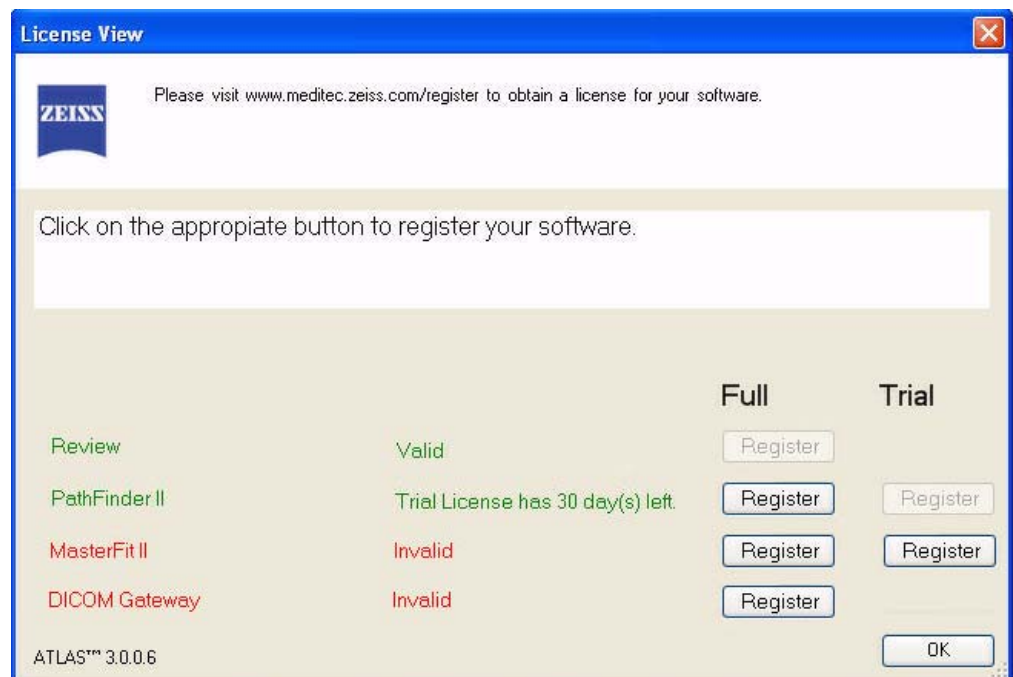
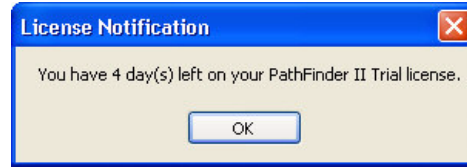

Figure I-3 License View Window – PathFinder II 30-Day Trial License Registered
Figure I-4 License Notification Dialog
2. Click **Yes** to start your 30-Day Trial license. The LICENSE VIEW window will be displayed with the Trial license registered (Figure I-3).
4. You have 30 days from the date of registering to continue using the software. The number of days left in your Trial license is shown on the LICENSE VIEW window (Figure I-3). Each day during the Trial period you will be notified at application startup with a dialog such as shown in Figure I-4 below: